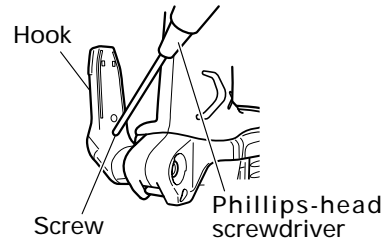
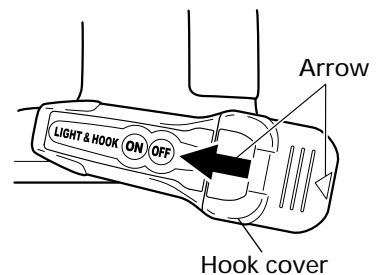

Fig. 14
Fig. 15
- (1) Loosen the hook screw with a phillips-head screwdriver (No. 1). (Fig. 14) Remove the hook cover by pushing in the direction of the arrow. (Fig. 15)
- (3) Align the indentation in the hook main body with the protuberance of the hook cover, press the hook cover in the direction opposite to that of the arrow shown in Fig. 15 and then tighten the screw. Use commercially available AAAA batteries (1.5 V).